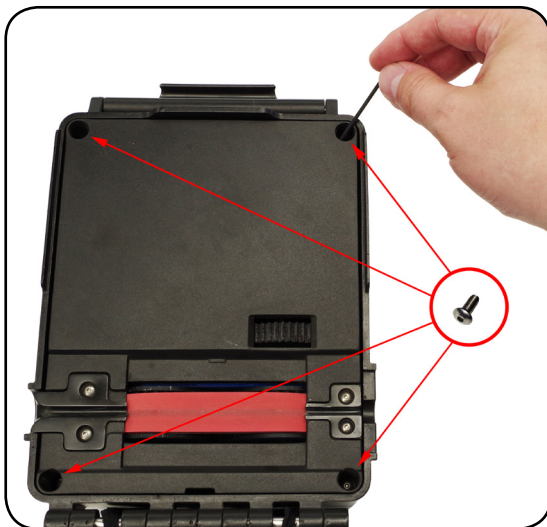

Figure 1
On the clamshell half with the LED display, use a 5/64 hex key wrench to remove (4) screws, located on each corner of the inside cover (Figure 1).